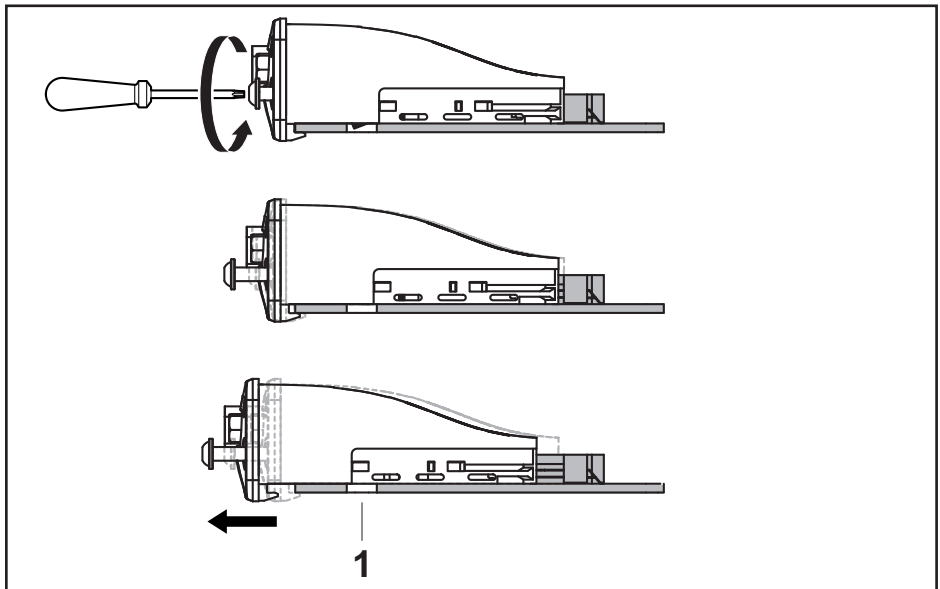

Fig. 4: Releasing the lock
2. Loosen the front torx screws. The IMenip interface module may only be removed once the lock has been completely released (see Fig. 4).